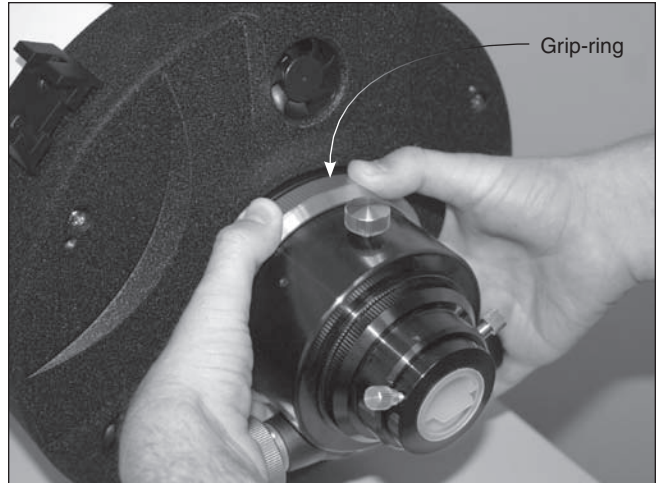

Figure 3: Removing the focuser.
1. Remove the focuser by gently turning the knurled silver grip-ring with the both hands (Figure 3). Turn counter-clockwise to loosen.